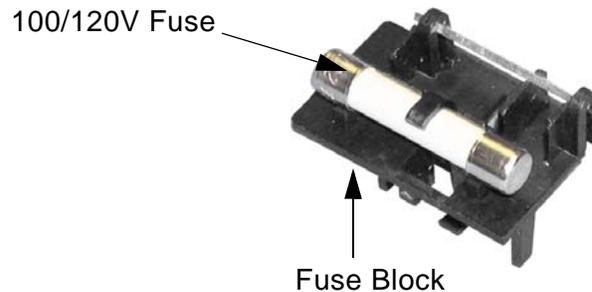

Figure 89. 100/120V Fuse Removal
- 1 Remove the single 100/120V fuse, as shown in Figure 89.